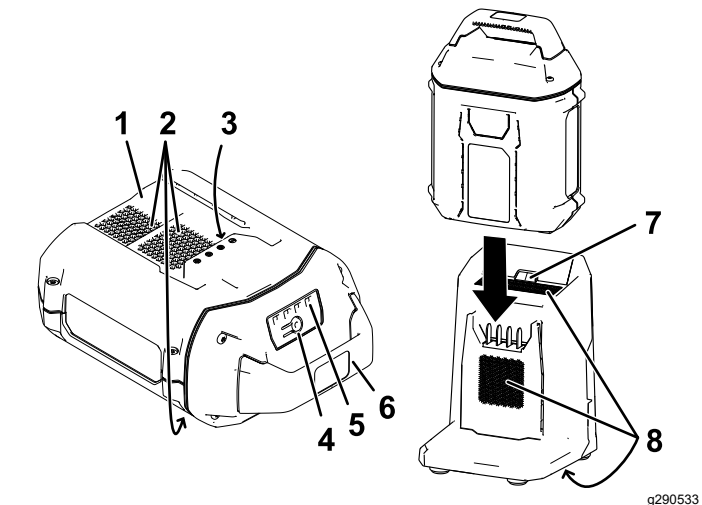

Figure 20
- 2. Line up the cavity in the battery pack (Figure 20) with the tongue on the charger.
- 3. Slide the battery pack into the charger until it is fully seated (Figure 20).